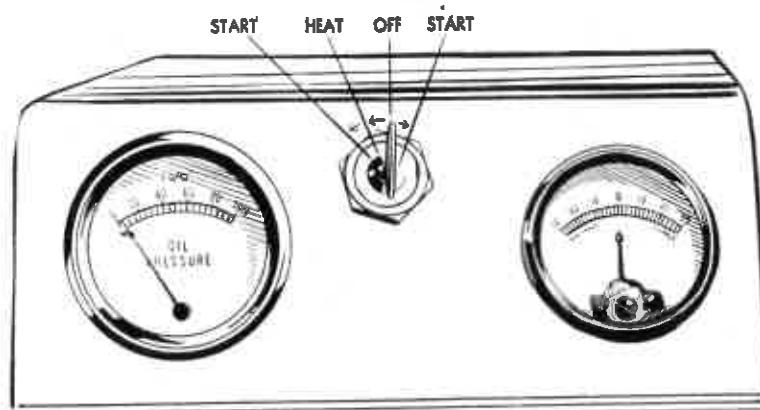

Fig. D.3.
If the engine is warm and has only been stopped for a little while, place the throttle control in the fully open position and engage the starter motor by turning the starter switch in a clockwise direction. (See Fig. D.3).
3. Turn switch in anti-clockwise direction to "heat" position for ten seconds (15 seconds in winter). See Fig. D.3.